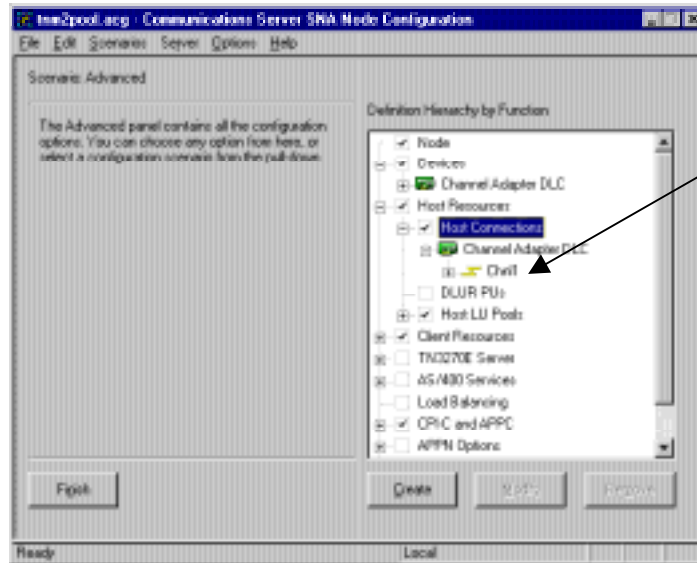

Figure 16-11. Host Connection
3. Verify that a host connection has been defined for the adapter (Figure 16-11).